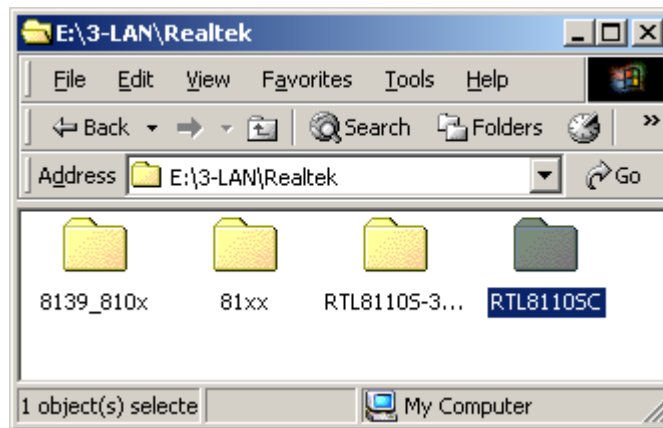

Figure 7-28: Realtek Folder
Step 3: Double-click the **Realtek** folder and a new window opens (**Figure 7-28**).